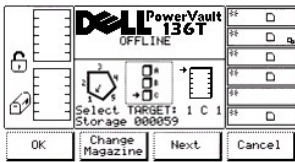

Figure 36. Command > Move > Position Picker > Change Magazine Dialog
- 1 If the button beneath the **Next** softkey is selected, the current source parameter changes from column to magazine and the Change Magazine Dialog is displayed. Refer to Figure 36.